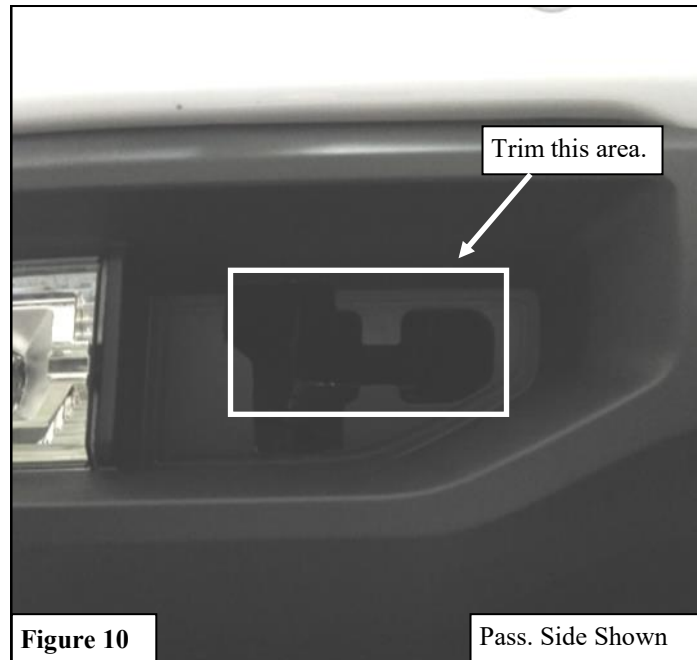

**Figure 9**
14. Use the OEM hardware to install the upper support straps to the bumper. See **Figure 9**.